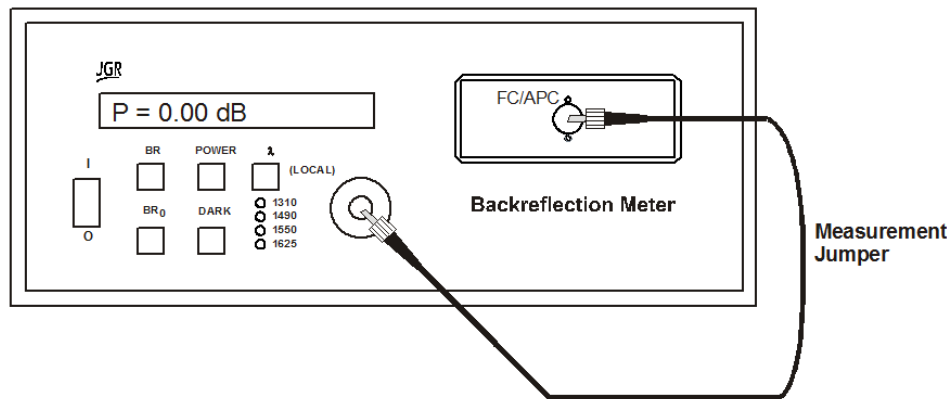

Figure 9: Loss and Power Measurements
9. Release the Power key. The display now reads **P= 0.00 dB rel.** Loss of the measurement jumper has been measured and will automatically be subtracted from the DUT loss or power measurements to be made (see Figure 9).